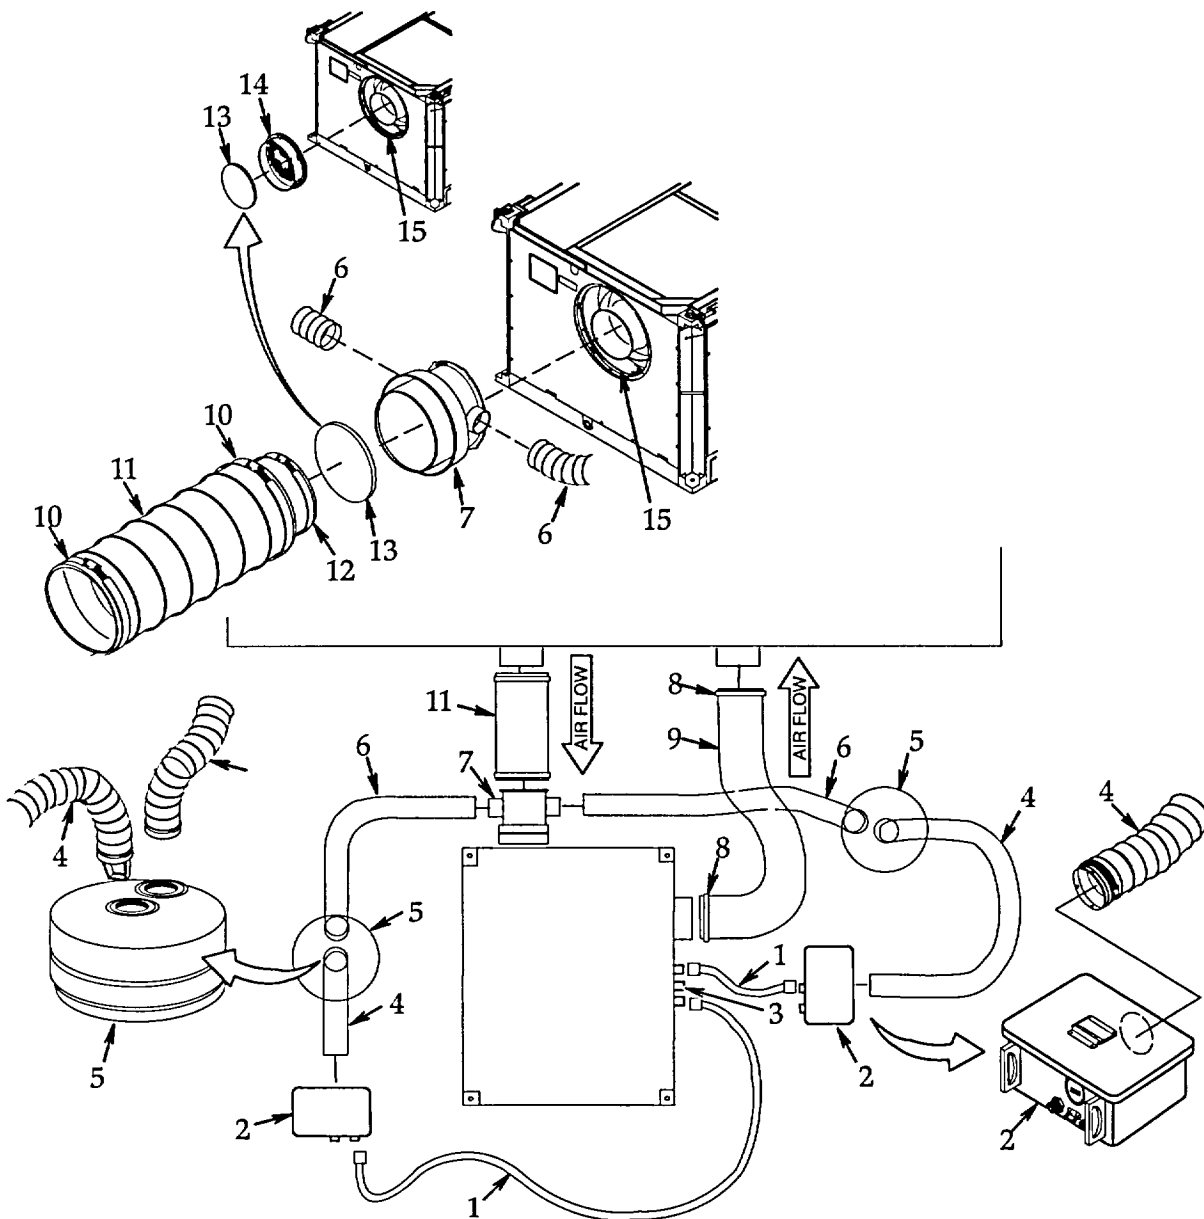

Figure 4-55. NBC Hardened.
4.56 **DISCONNECT AND SECURE NBC KIT IF USED.** See figure 4-55.